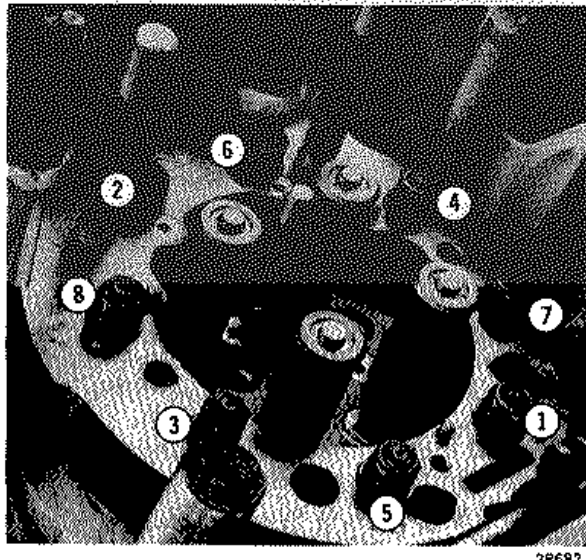

Fig. 5-22 - Head-To-Liner Nut Tightening Sequence
63. Following the sequence as shown in Fig. 5-22, torque the head-to-liner nuts to 95 Nm (70 ft-lbs), then final torque to 325 Nm (240 ft-lbs).